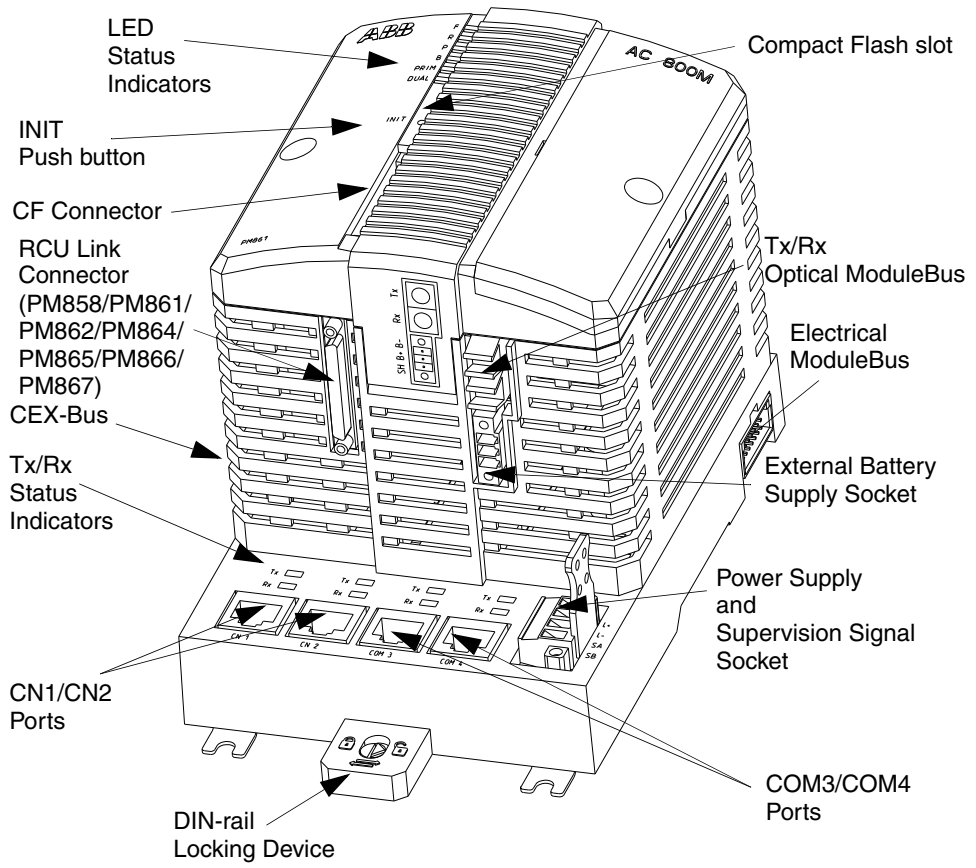

Figure 2. Processor Unit – General View (here shown with PM861)
**Figure 2** shows the PM861 processor unit that is part of the AC 800M controller. This processor unit is different from PM891.
The PM858/PM861/PM862/PM864/PM865/PM866/PM867 has an RCU Link Connector for connecting the RCU Link Cable (see Figure 2 on page 36). In a redundant system the two processor units are linked together with the RCU Link Cable (max 1 m). Both processor units are also connected to the same CEX-Bus and either of the two can control the expansion units (see Figure 29 on page 99).